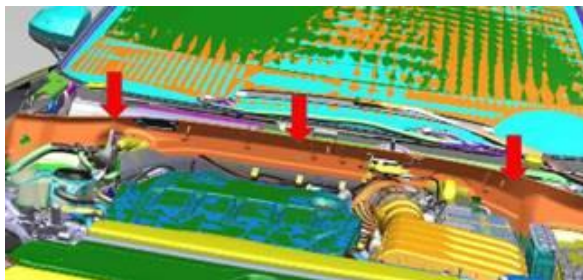

Figure 3. Plenum chamber bulkhead.
4. Remove the plenum chamber cover. Remove the plenum chamber bulkhead (Figure 3).